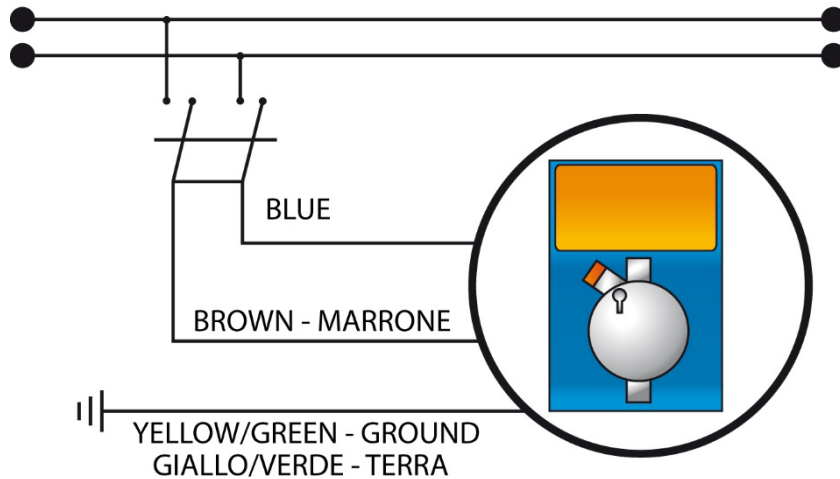

Fig.4 – Electrical connection
- Make sure it is switched off electrically (both polarities), disconnecting the conductors from contact points of the mains by opening of an omnipolar switch with minimum 3 mm distance between the contacts (Fig.4).